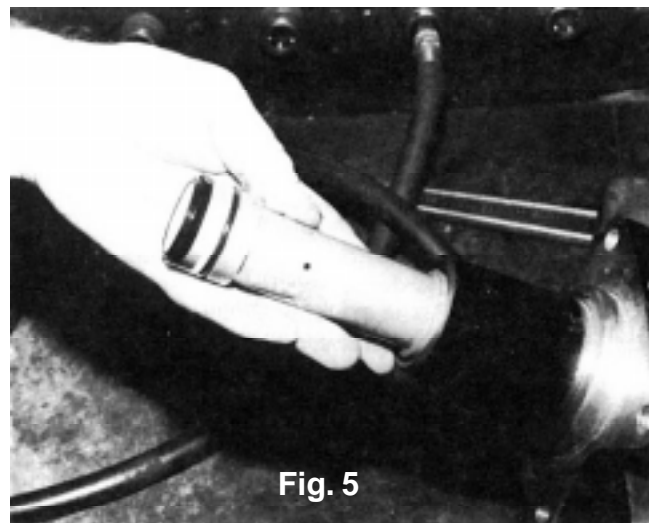

Fig. 5
2. Carefully wash and blow out the filter screen (8).
3. Install the new O-Ring (2) on the cap nut after lubricating with the fluid to be used in the master cylinder or Dow Corning 55-M pneumatic grease. Thread the cap nut in the adapter block and torque to 300 inch pounds.
4. Coat the new compensating seal (5) with fluid or Dow Corning 55-M pneumatic grease and install in mating grooves in bottom of adapter block or reservoir.
5. Coat bore in master cylinder with fluid to be used, place spring (11) in piston assembly (1) and slide both into bore of master cylinder (Fig. 5).